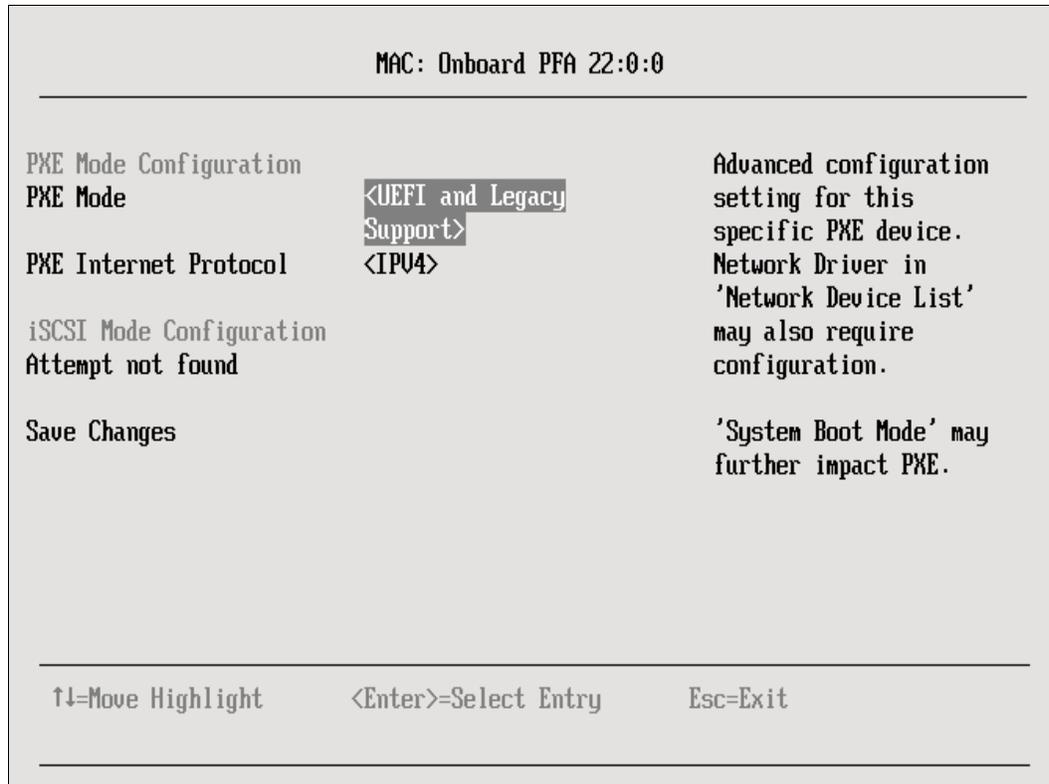

Figure 3-29 Network Boot Configuration for an adapter
- ▶ **Network Boot Configuration:** Select this option to configure the network boot parameters. A list of each adapter is displayed. Select the adapter to configure by the MAC address that is listed to enter the boot configuration menu for that adapter. See Figure 3-29 on page 108 for the network boot configuration for an adapter.